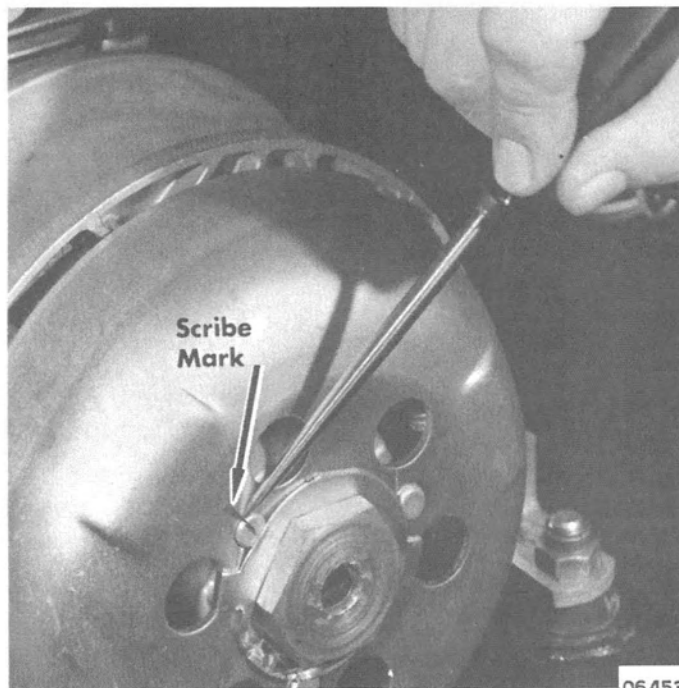

Figure 2. Scribing Location of Ramp Plate
5. Scribe a mark on ramp plate and spider boss to ensure correct installation. (Figure 2)